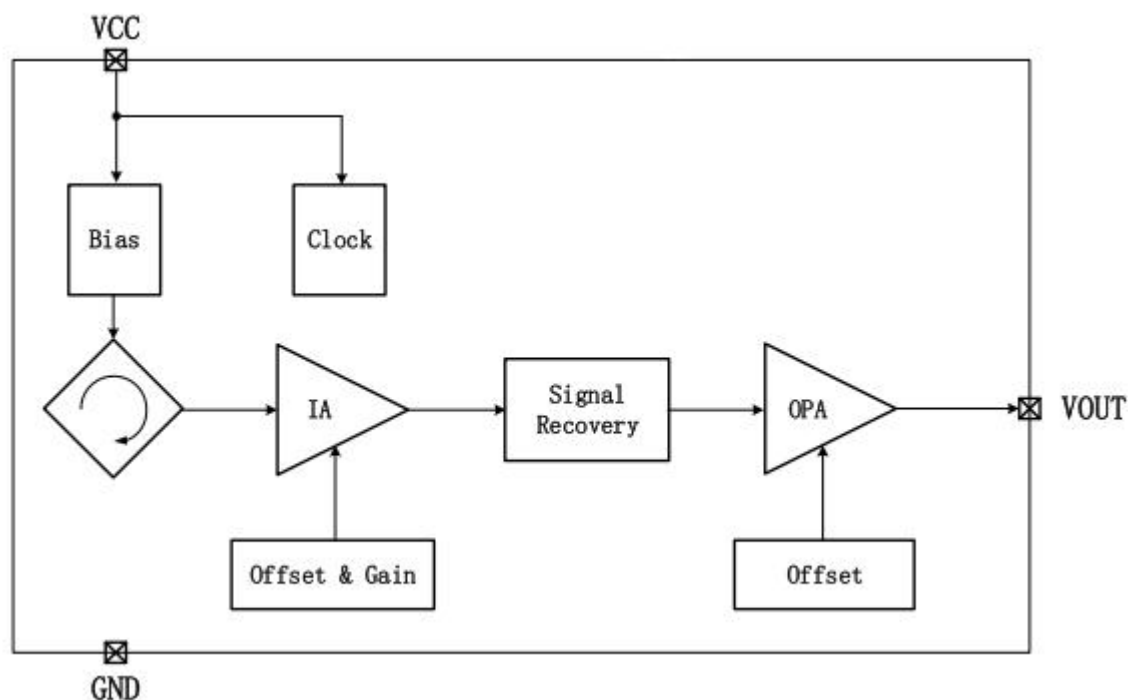

Fig.3 Functional Block Diagram ITE5911
The sensor IC is shown in Fig.3. The main path comprises a Hall probe, signal chain with instrumentation amplifier (IA), signal recovery circuit and operational amplifier (OPA). The background dynamic offset compensation circuits in signal chain and Hall probe continuously null out the Hall offset and circuits offset. The on-chip temperature and VCC sensors ensure the IC accuracy.